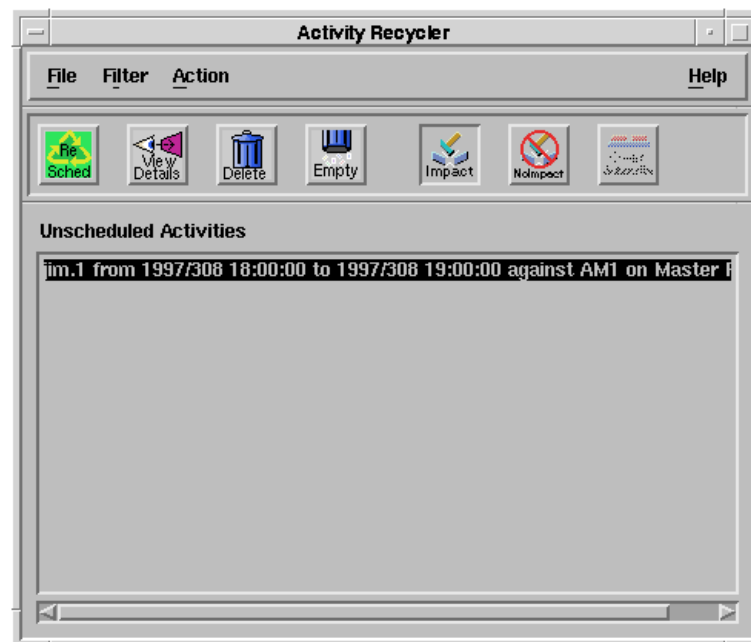

Figure 8.6.6-1. Activity Recycler Window
4. Click **OK**. The Tools dialog box closes and the Activity Recycler starts up (see Figure 8.6.6-1).